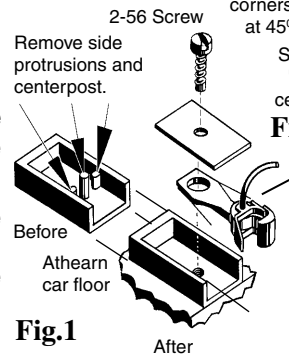

Fig.1
2. If any internal side protrusions are present in the coupler pocket, see Fig.1, remove them by cutting and/or filing until surface of sides are smooth and flat.
4. Place coupler with spring into Athearn coupler pocket. Secure with lid and/or screw. See Fig.1 and 3 for typical installation.